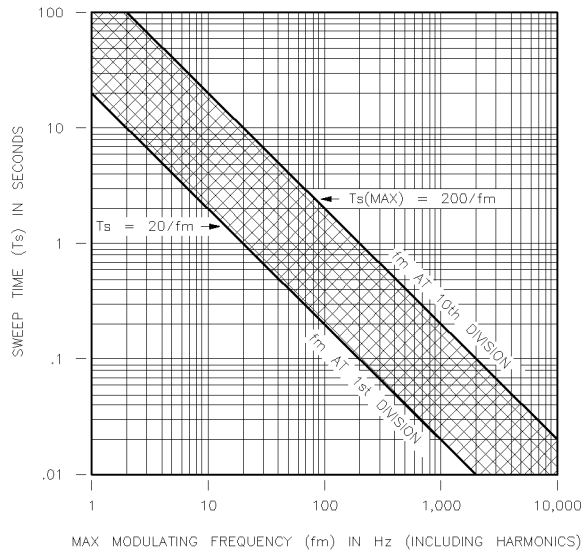

Figure 8-8.
8. Refer to Figure 8-8, which shows maximum modulation frequency (f_m) in Hertz versus sweep time (T_s) in seconds. Set the sweep time less than $T_s(\text{man})$ for the maximum modulation frequency (f_m) including the harmonics of the signal. The upper curve relates the sweep time to the maximum modulation frequency that can be observed (that is, the modulation frequency represented by the right edge of the graticule). The lower curve represents the modulation frequency one division from the left side of the graticule.
Set the sweep time so it falls in the shaded area between the two lines. Refer to Figure 8-8. Set it closer to the bottom line to avoid the effects of aliasing. Note the upper line (marked **fm AT 10th DIVISION**) represents sampling at exactly the Nyquist rate. Some aliasing may be seen when a value for sweep time is close to the upper line. (Frequencies greater than the maximum modulation frequency for a specific sweep time will not be displayed accurately.)